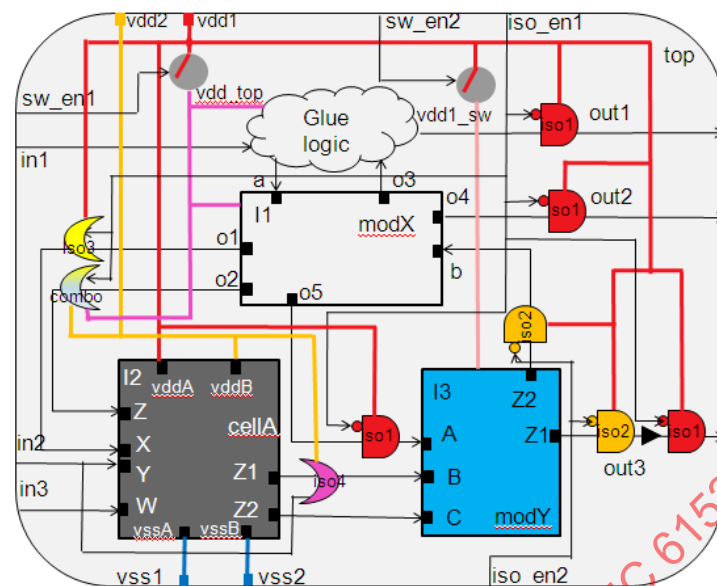

Figure E.6—Block example diagram after physical implementation
Figure E.6 shows the block diagram of the example in Figure E.1 after the physical implementation stage, with power and ground connections completed.
For the regular logic cells of a power domain, the power pin and ground pin of each cell are connected to the primary power net and ground net of the parent power domain, respectively. For example, the power pins of the glue logic in Figure E.6 are connected to the power net `vdd_top`, which is defined as the power net of the primary supply set of power domain `PDTop`.
- *Level-shifter supply connection:* The level-shifter cell power and ground connections are determined by the options **-input_supply_set** and **-output_supply_set** in the level-shifter strategy. For example, in `top_impl.upf`, the level-shifter strategy `lv11` has an input supply set of `PDTop.primary` and output supply set of `PDTop.SSH2`. Since an enabled level-shifter is used to implement both the isolation strategy `iso3` and level-shifter strategy `lv11` for this connection, the input power net of the cell is `vdd_top` and the output power net of the cell is `vdd2`, as shown in Figure E.6. If the two options are not specified for a level-shifter strategy, the supply set of the source is used as the input supply set and the supply set of the sink is used as the output supply set.
- *State retention supply connection:* In the configuration UPF, the option **-retention_supply_set** describes the supply set for each retention strategy. Retention cells mostly have two set of supplies. The primary rails are connected to the power and ground nets of the parent domain. The secondary rails are connected to the power and ground nets of the specified retention supply set. Even though it is not shown in Figure E.6, the retention cells that implement the strategy for `ret1` in `top_soft.upf` shall have the following connections: primary rails of the cell are connected to `vdd1_sw` and `vss1`, respectively, and the secondary rails of the cell are connected to `vdd1` and `vss1`, respectively.